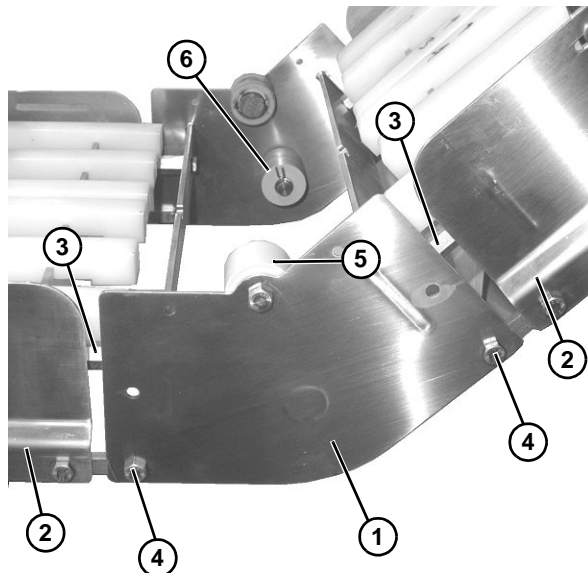

Figure 21
2. Attach lower knuckle (**Figure 21, item 1**) to frame (**Figure 21, item 2**) with hex rods (**Figure 21, item 3**) and bolts (**Figure 21, item 4**).
3. Install hold down sleeve bearing (**Figure 21, item 5**), and secure with cap screw. Repeat on opposite side.
4. Install return sleeve bearing (**Figure 21, item 6**), and secure with clamp. Repeat on opposite side.